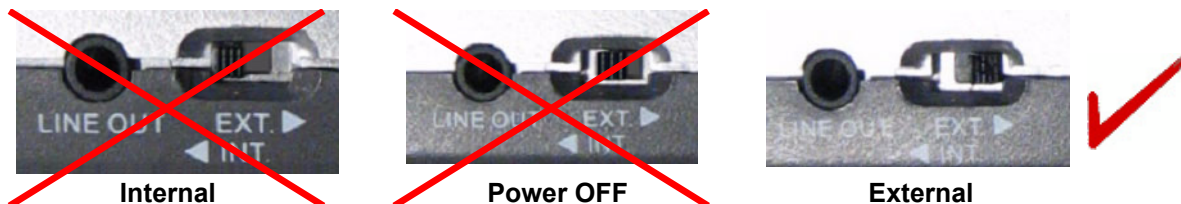

Figure 7-146 Power Switch in External Position
- 1.) Connect the DVD/CD-RW media drive to the USB port and make sure the DVD/CD-RW power switch on the rear of the drive is set in the **External** position, as shown in Figure 7-146, below.